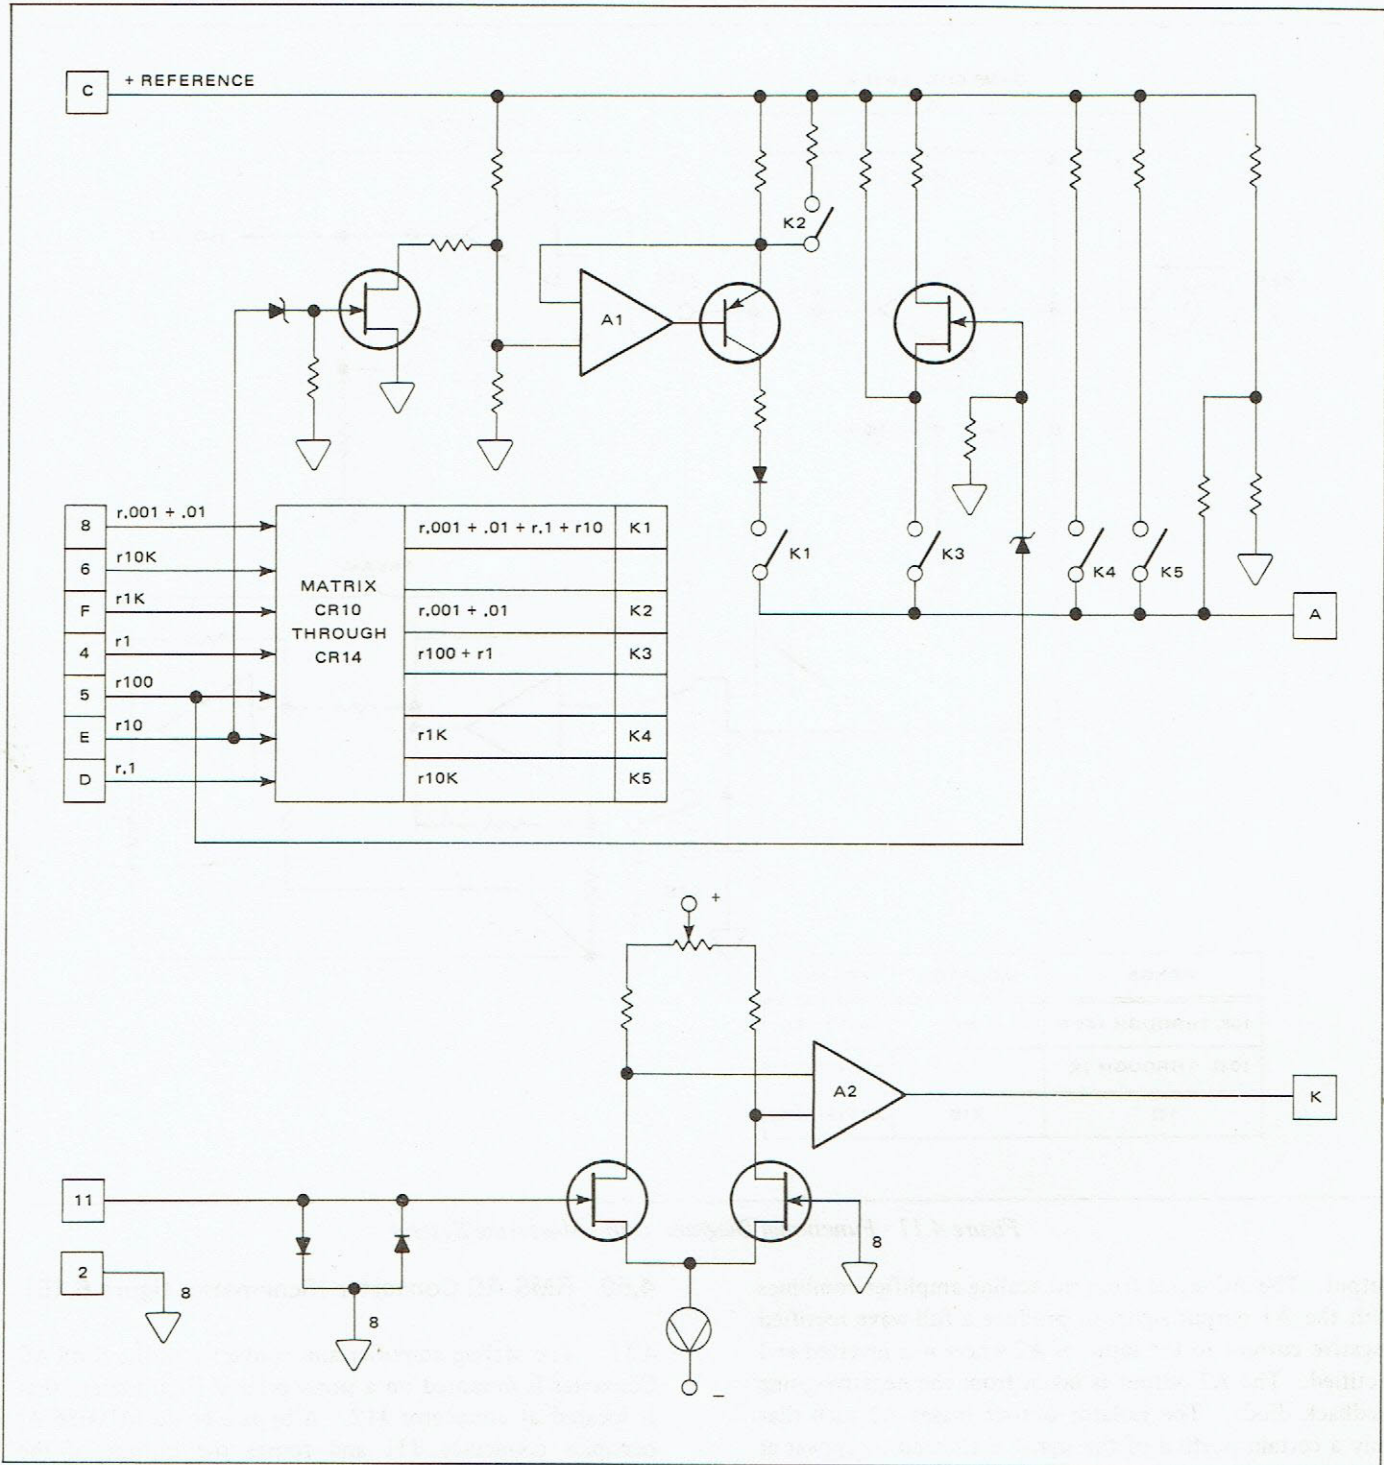
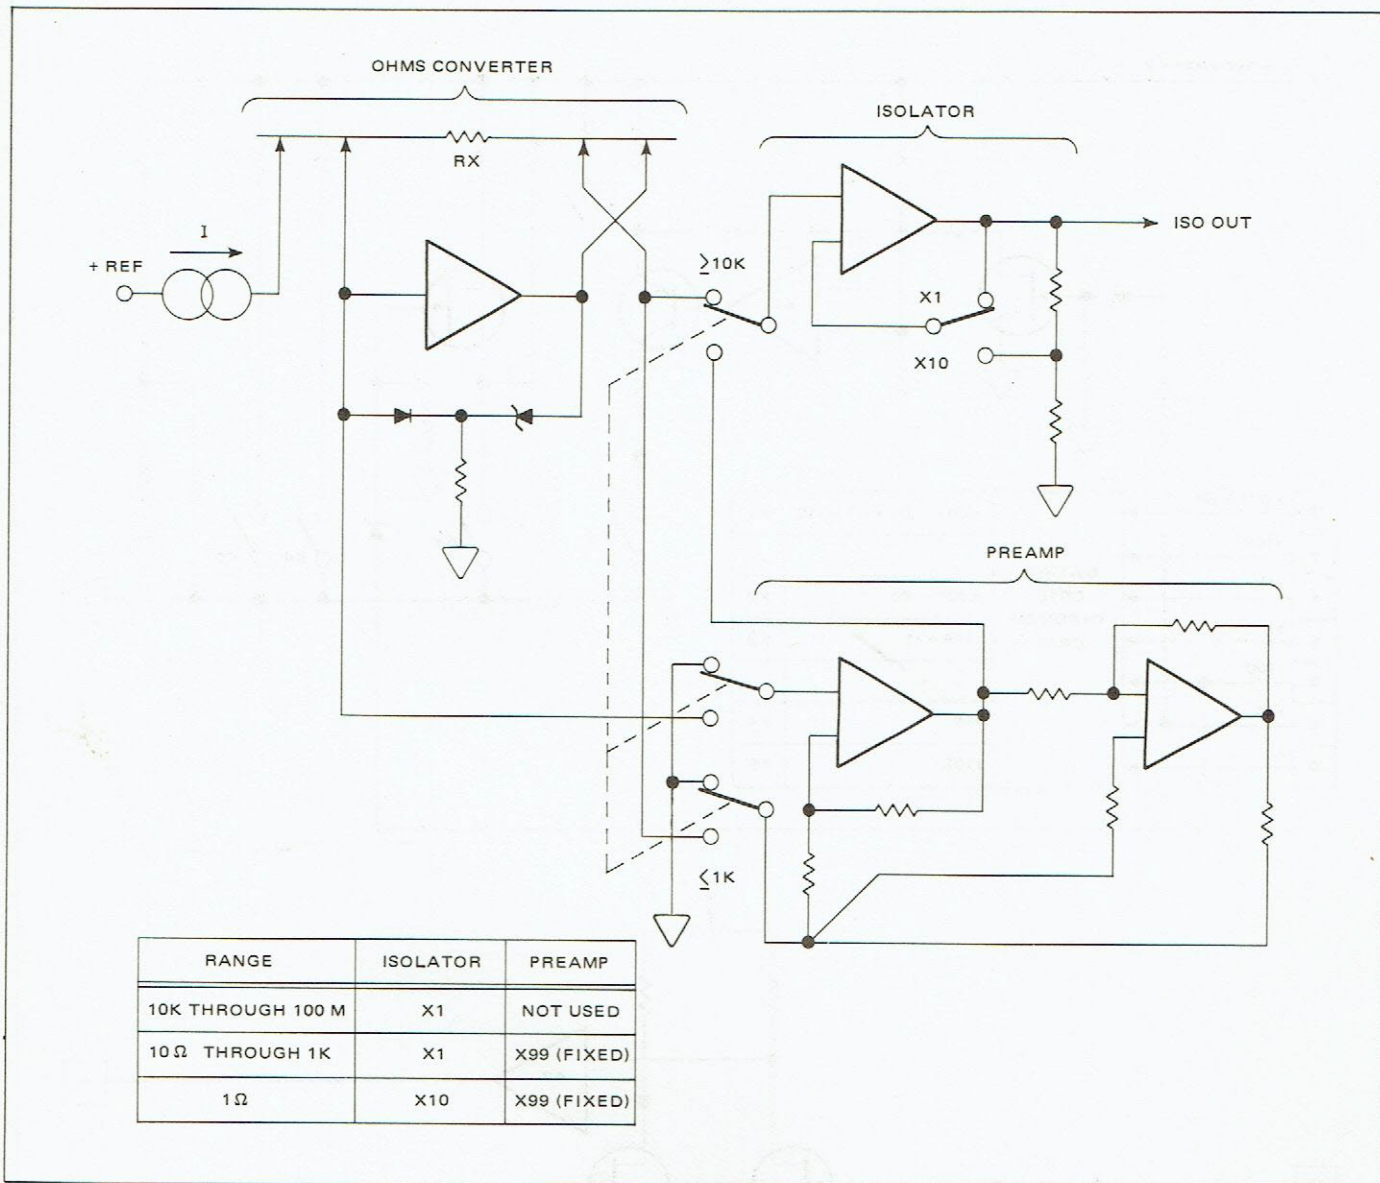

Figure 4.10 - Simplified Schematic - Ohms Converter of Millivolts/Ohms Converter Board
Figure 4.11 - Functional Diagram, Ohms Measuring System
4.57 Referring to figure 4.10, the converter consists of a current generator driving the summing node of an operational amplifier. Considering the summing node as a virtual ground the current developed by the current generator is equal to the equivalent resistance of the generator divided into the reference voltage (+10 volts). The current developed by the generator for each range is given in table 4.2. As shown in figure 4.11, the converter output is routed either through the preamplifier, or directly to the isolator. For ranges 10K through 100 Megohms, the current supplied by the generator produces 10 volts across the resistor under test when the resistance is equal to the full-scale value of the range selected (i.e., 100 kilohms on the 100K range, 10 kilohms on the 10K range, etc.). The voltage developed for full-scale resistances under test on the 10 ohm through the 1K ohm ranges is approximately 100 millivolts and on the one ohm range approximately 10 millivolts. For these ranges, the + input of the preamp is connected to the summing node (effective ground) and the - input of the preamp is connected to the output of the op amp (through the - CURRENT lead). Connected in this configuration, the preamplifier operates as an operational